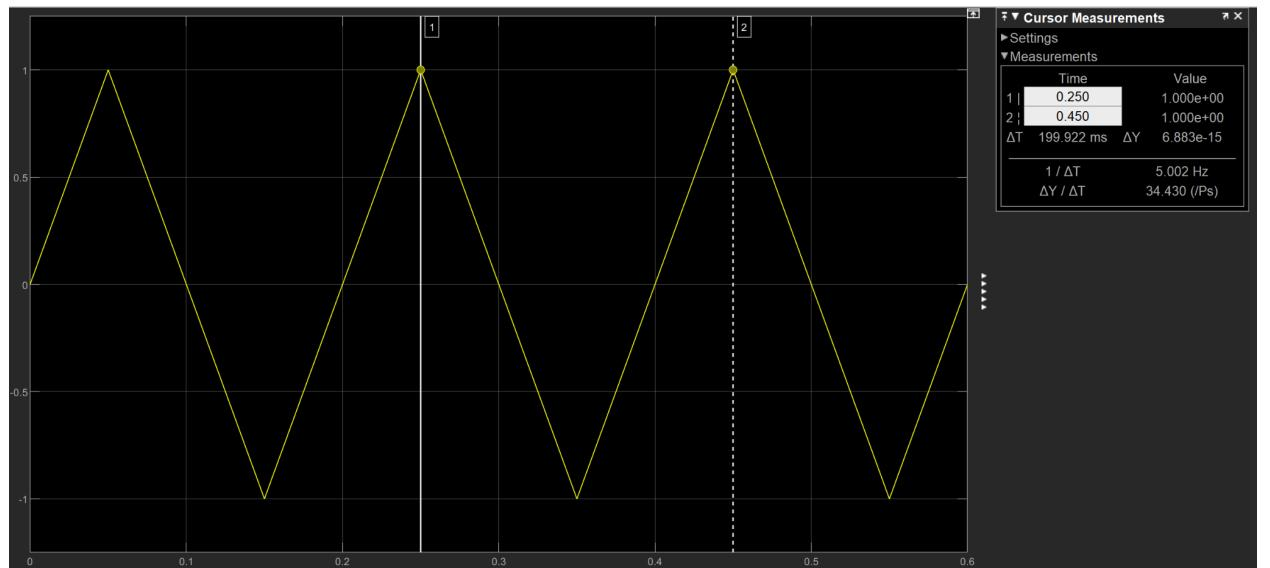
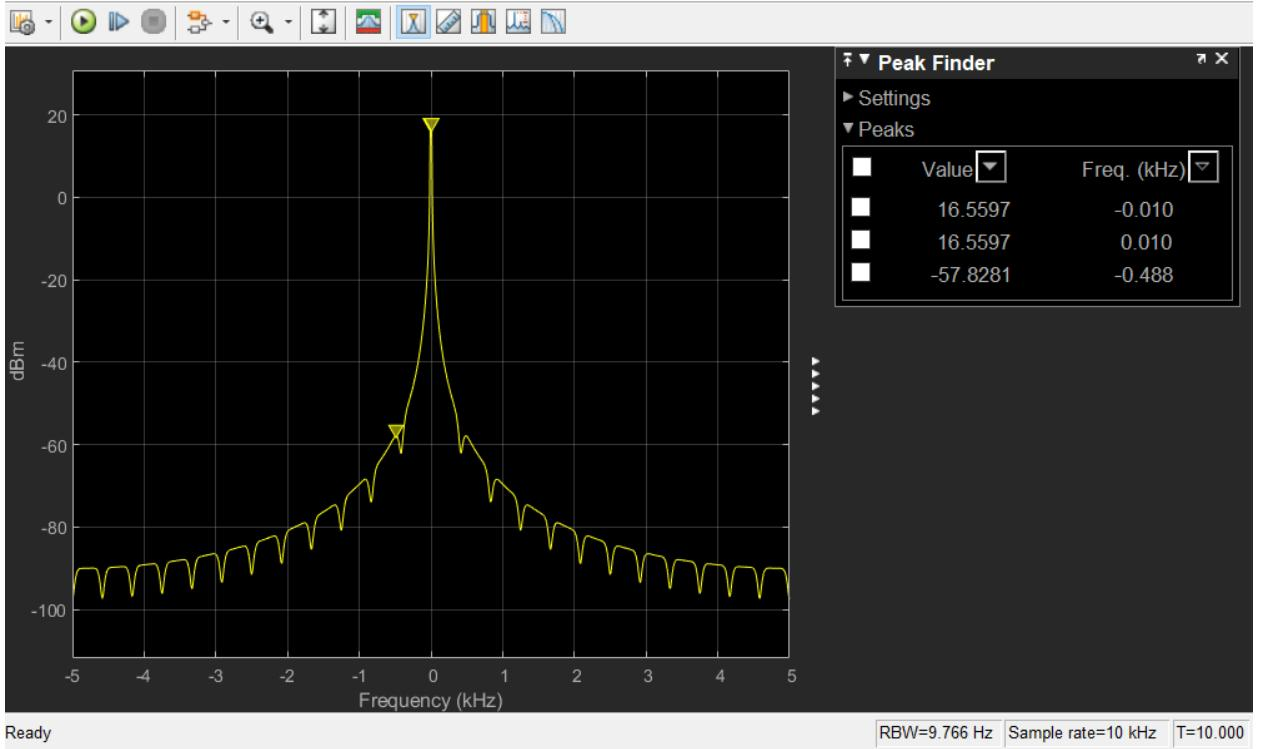

Fig. 3: Output of the triangular-wave on the Scope
Fig. 4: Output of the triangular-wave on the Spectrum
- 2) Replacing the sine wave with a triangular wave generated by a triangle generator, which was set up to sample based with a period (number of samples) of 5000 and a sample time of 1e-4, we observed the outputs on the Scope and the Spectrum (Fig. 3 and Fig. 4)